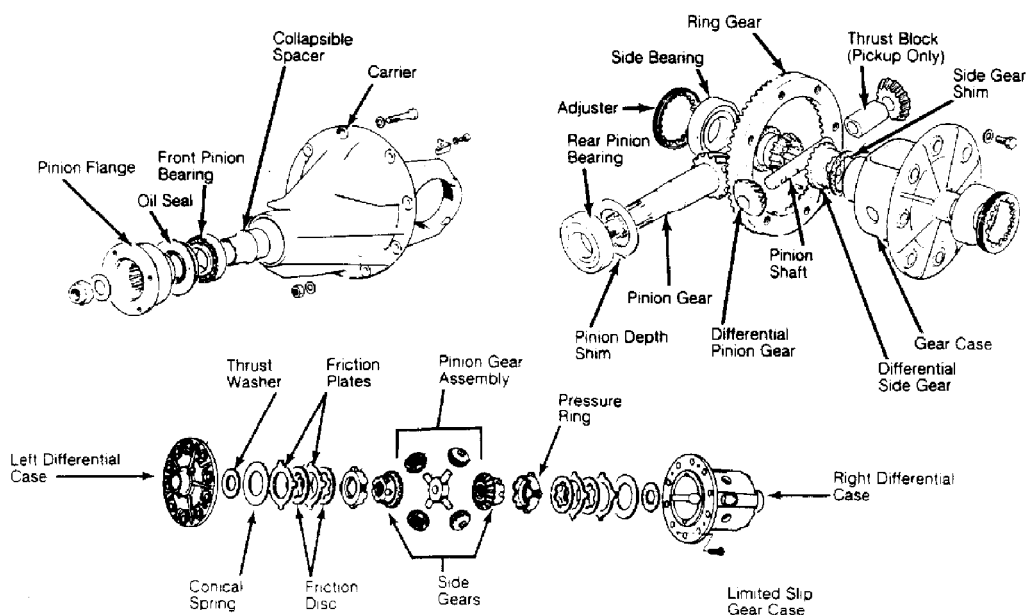

Fig. 1: Exploded View of Mazda Rear Axle Assembly
friction plate, friction disc, pressure ring, side gear, pinion gear and spider. Keep parts in order for reassembly. See Fig. 1.
2) On limited slip differential, install parts in the following order: Thrust washer, conical spring, friction plate, friction disc, friction plate, friction disc and pressure ring. See Fig. 1.